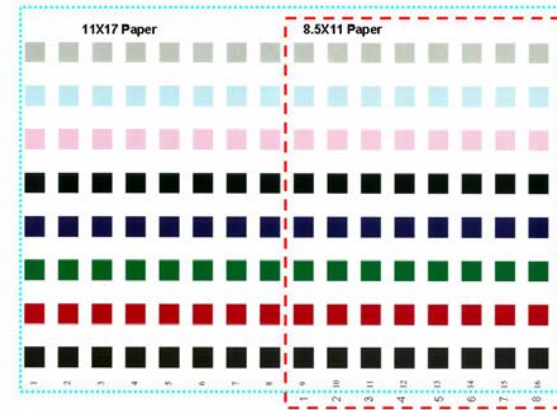

Figure 1 Test Pattern
7. Select **Test Print** to output the Test Pattern (**Figure 1**).